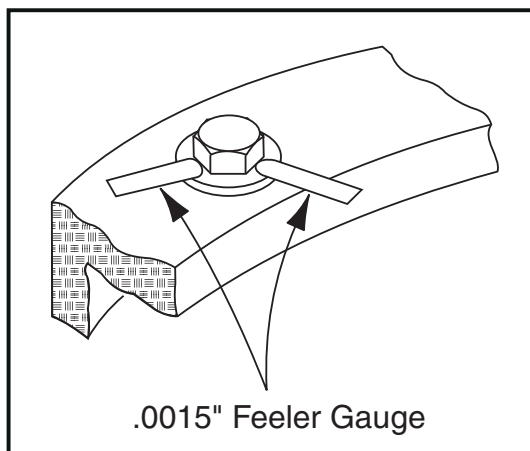

Figure 3-12. Swing Bearing Bolt Feeler Gauge Check
2. At the positions indicated on Figure 3-12, try and insert the 0.0015" feeler gauge between the bolt head and hardened washer at the arrow indicated position.
- At the position indicated on Figure 3-12, try and insert the 0.0015" feeler gauge between the bolt head and hardened washer at the arrow indicated position.